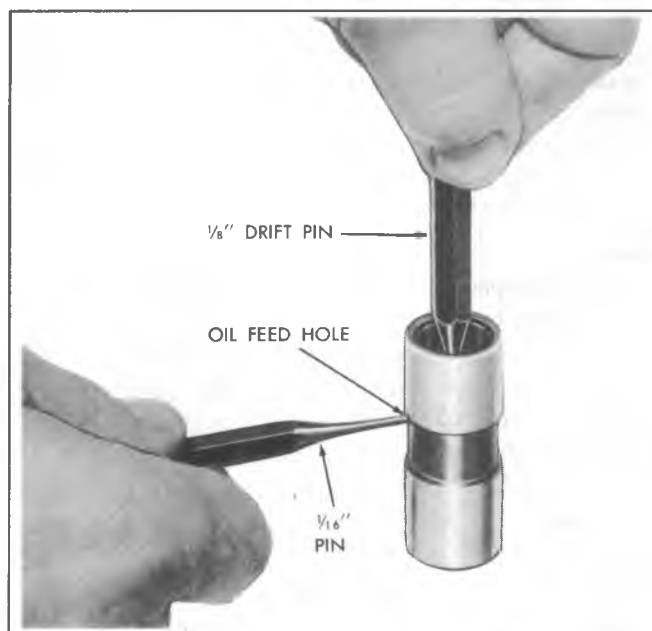

Fig. 6A1-15--Assembling Hydraulic Lifter
4. Fill the assembly with SAE 10 oil, then insert the end of a 1/8" (3mm) drift pin into the plunger and press down solid. (Do not attempt to force or pump the plunger). At this point oil holes in the lifter body and plunger assembly will be aligned (fig. 6A1-15).
5. Insert a 1/16" (1.6mm) drift pin through both oil holes to hold the plunger down against the lifter spring tension (fig. 6A1-15).
7. Install the metering valve and push rod seat (refer to fig. 6A1-12).